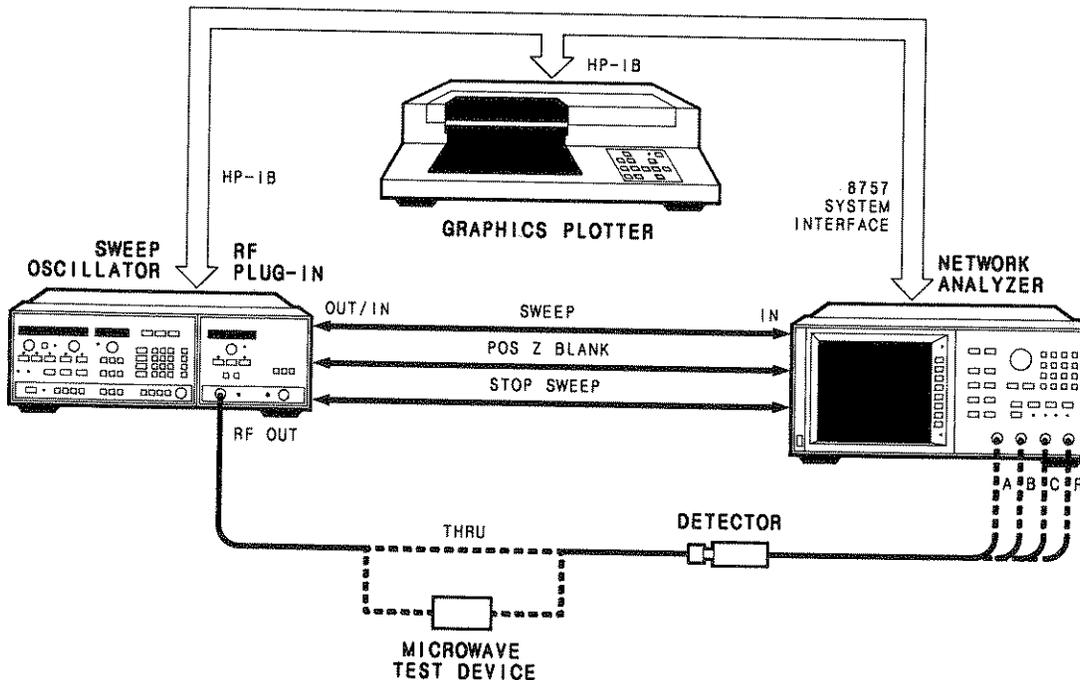

Figure 3-32. Equipment Setup for Operator's Check
2. Set up the equipment as illustrated in Figure 3-32, with the detector connected to the A input of the HP 8757A. Connect the detector input to the RF output of the sweep oscillator for a “thru” (0 dB insertion loss) connection. Turn on the instruments and allow 30 minutes warm-up time.